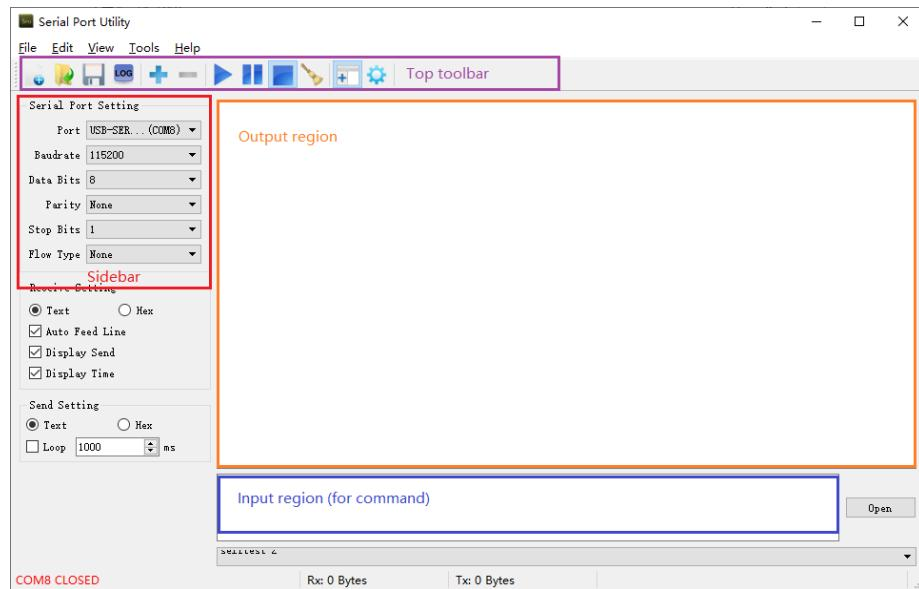

Figure 4-8 Overview of Serial Port Utility
4) The main window will show as Figure 4-8, it contains 4 function regions: top toolbar, left sidebar, output region and input region;